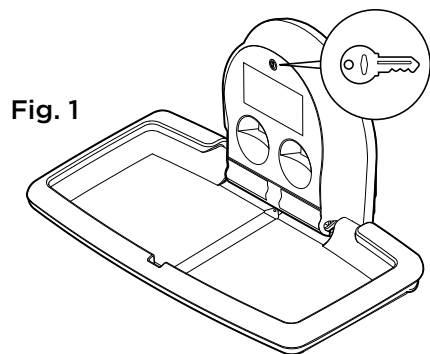

Fig. 1
- Use the Universal Bobrick Key to unlock and open the liner dispenser. **Fig. 1** This will expose the liner dispenser mounting holes.